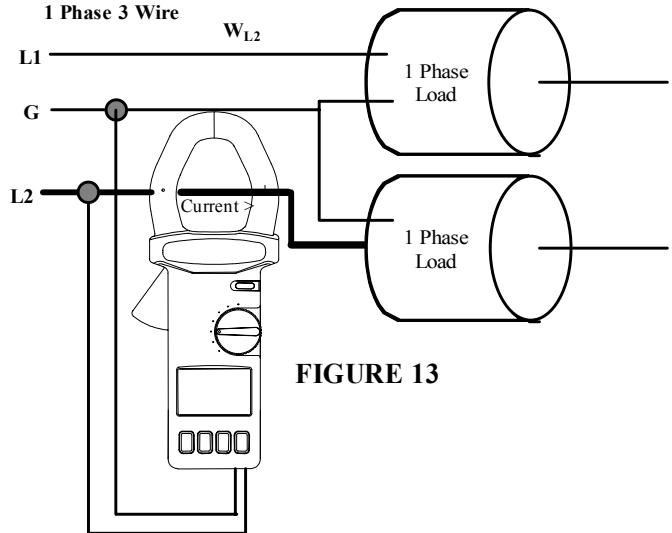

FIGURE 13
2. Secondly, measure  $W_{TS}$  (or  $W_{L2G}$ ). Fig. 13.